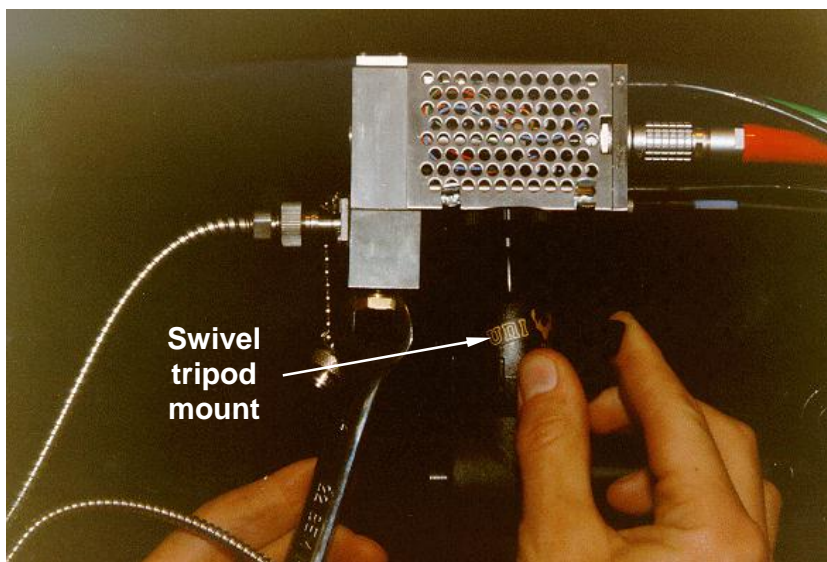

Figure 7
1. Remove the electrical LEMO connection of the HSM from the MCU and swivel the HSM over on to its side on the ball joint of the tripod (Figure 7).